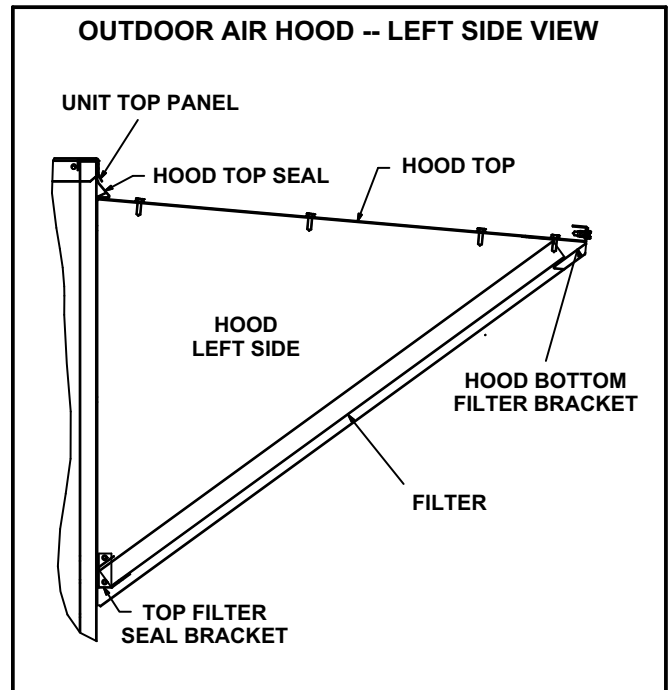

FIGURE 28
- 4 - Secure hood left side to the hood top and to the unit cabinet using the provided screws. See figure 28.